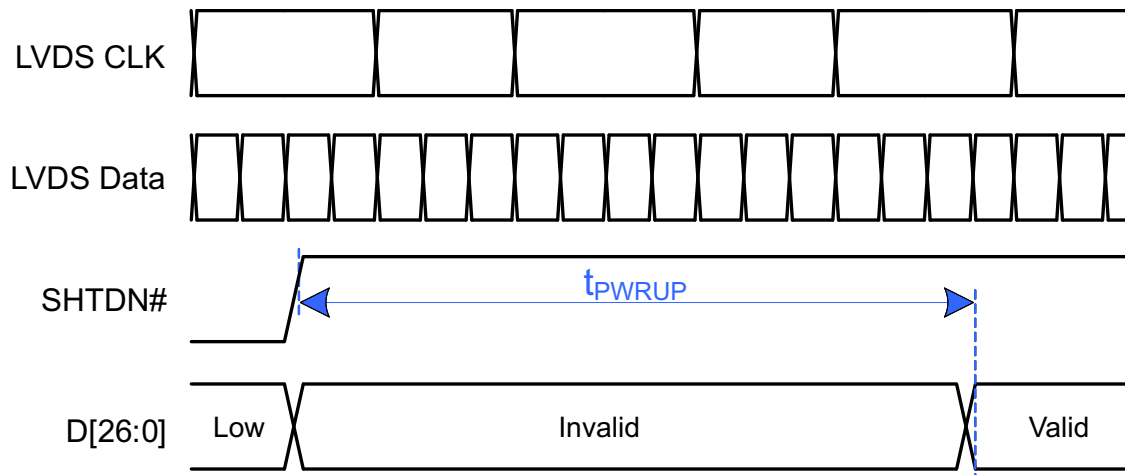

Figure 5. Time to Exit Shutdown Mode
(1) Grayscale and 1010 test patterns are described by Figure 5 to Figure 6 and Table 1 to Table 2.
(2) Standby Mode can be entered in two ways: f_{CLK} = zero to 500 kHz, or a high V_{CM} on the LVDS clock. If the LVDS transmitter device disables its clock driver to a high-impedance state, the SN65LVDS822's integrated R_{PU} will pull V_{CM} high for the lower-power Standby state.